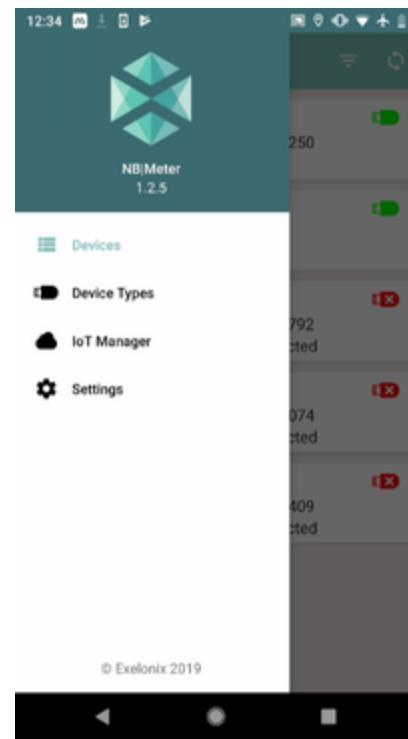

Figure 2 : Settings Menu
clicking on the settings menu (1) multiple options to proceed are available as shown in **figure 2**.